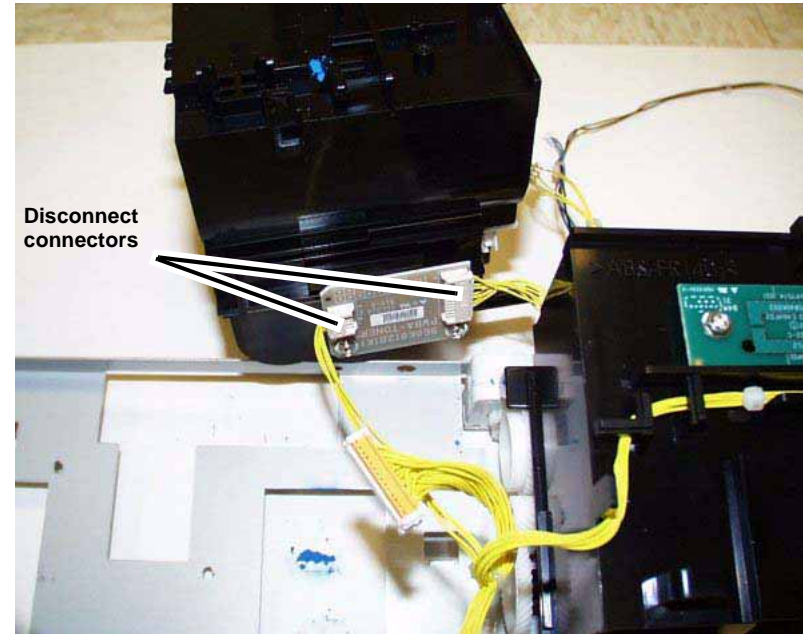

Figure 4 Disconnecting connectors
6. Disconnect connectors (Figure 4).